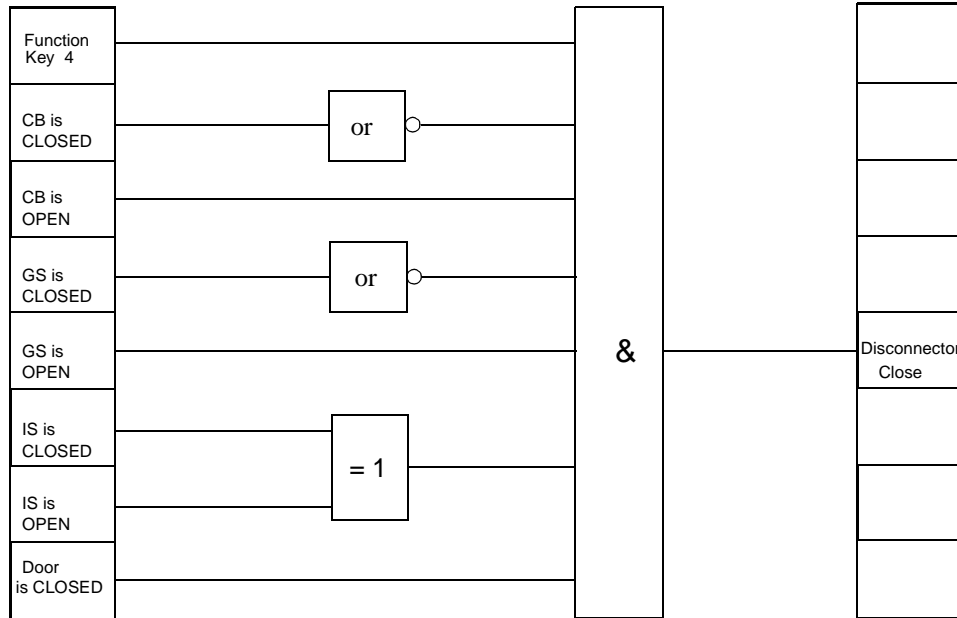

Figure 5-45 Interlocking an Disconnect Switch as an Example of a User Defined Interlock Protective Function
Interlocking logic (see Figure 5-45) is to be implemented for the operation of an isolating switch using function key 4. The user must take the switch position indications of the corresponding isolation switch and the grounding switch into account. The CLOSE and TRIP indications from the auxiliary contacts of each switch are used.
- The CLOSE indications from the circuit breaker (CB) and from the grounding switch (GS) are supplied to the inputs of the NOR functions.
- The OPEN indications from the circuit breaker (CB) and from the grounding switch (GS) are supplied to the inputs of the AND function.
- The switch position indications from the disconnect switch (IS) are linked to the inputs of the XOR function.
- Function key 4 is linked with an input of the AND function.